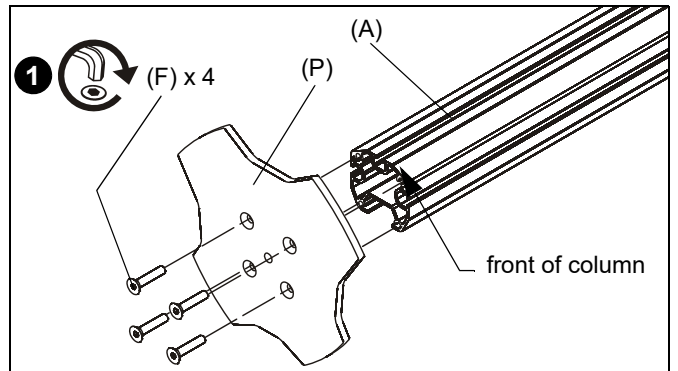

Figure 7
- Use four 1/4-20 x 1 1/4" flat head cap screws (F) to secure grommet plate (P) to array assembly (A). Make sure longer legs of grommet plate are aligned with the front of column. (See Figure 7)